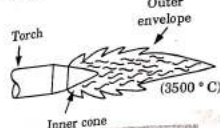

Fig. 4.5.3. Oxidizing flame.
2. It is similar to neutral flame but the inner cone is less luminous and shorter as shown in Fig. 4.5.3.